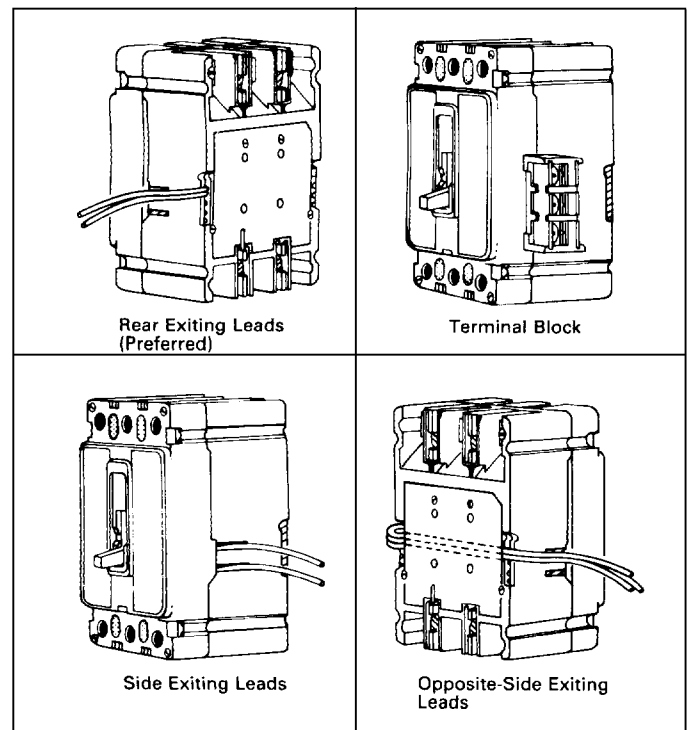

Fig. 2-2. Accessory Wiring Options
- 2-6. Route wiring to meet installation requirements (see Fig. 2-2).